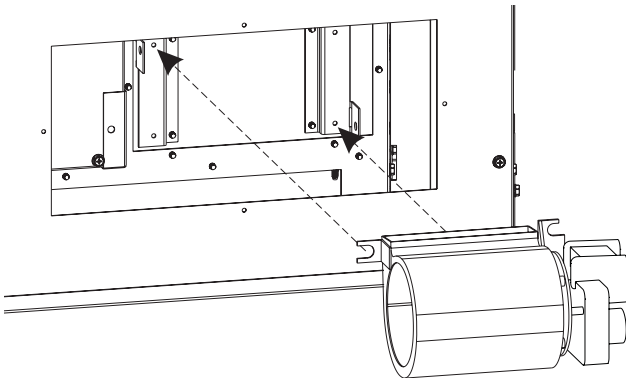

Figure 3
2. Place Blowers onto blower brackets. **See Figure 3.**